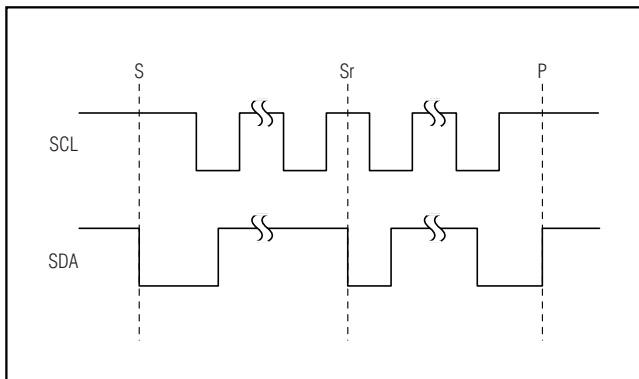

Figure 10. START, STOP, and REPEATED START Conditions
A master device initiates communication by issuing a START condition. A START condition is a high-to-low transition on SDA with SCL high. A STOP condition is a low-to-high transition on SDA while SCL is high (Figure 10). A START (S) condition from the master signals the beginning of a transmission to the MAX9702. The master terminates transmission and frees the bus by issuing a STOP (P) condition. The bus remains active if a REPEATED START (Sr) condition is generated instead of a STOP condition.